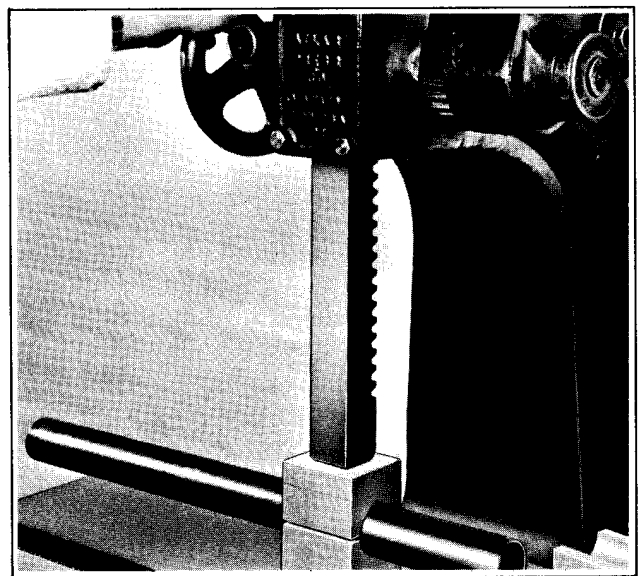

Figure 2-28. Pressing Fork Tube Round
3. Sometimes fork tubes are out of round, especially at the point it is clamped in the fork bracket. Place tube in straightening blocks and press until perfectly round as shown in Figure 2-28, checking with dial indicator and micrometer. Finally, check tube by inserting in new fork slider. Work tube up and down. If it does not bind, it is straight.